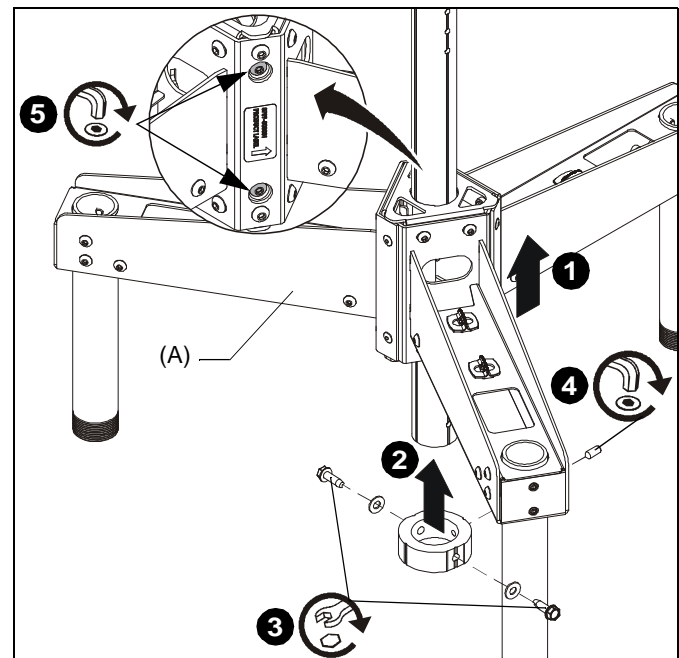

Figure 3
1. Slide triple ceiling accessory (A) up from below onto installed column (not included). (See Figure 3)
4. Install and tighten 5/16" x 3/4" set screw into bottom stop collar. (See Figure 3)
5. Tighten two existing 5/16 x 1-1/2" button head cap screws in center of triple ceiling accessory. (See Figure 3)